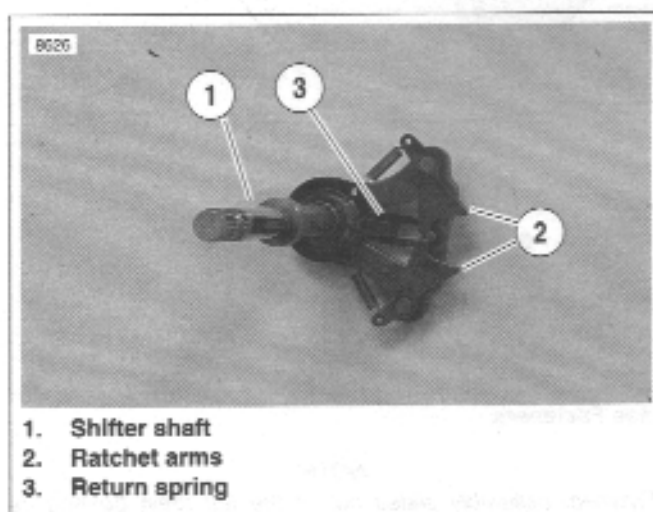

Figure 6-43. Shifter Shaft Assembly
10. See Figure 6-43. Remove shifter shaft assembly.